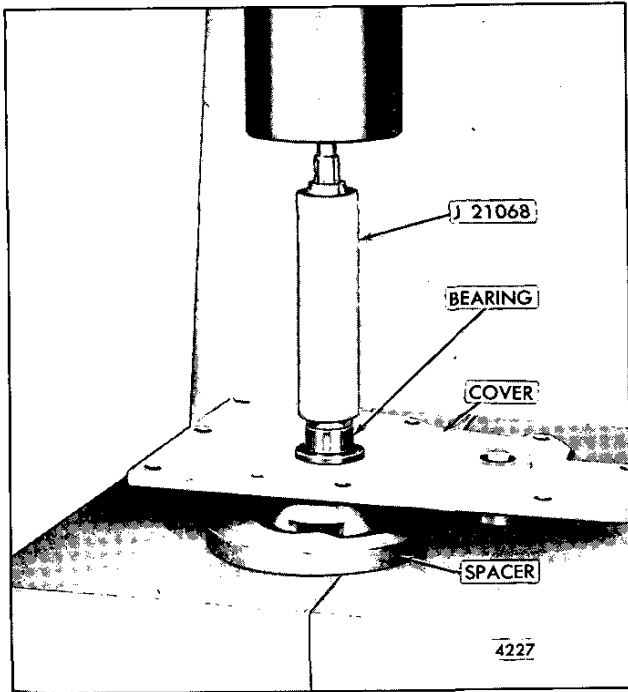

Fig. 10 - Installing Governor Cover Bearings
1. Place the cover, with the inner face down, on a spacer on the bed of an arbor press. Start a needle bearing straight into the bearing bore of the cover, with the number side of the bearing up. Then insert bearing installer J 21068 in the bearing and press the bearing in until the shoulder on the tool contacts the cover (Fig. 10).